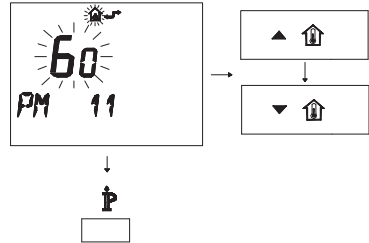

Fig. 7.31
- To modify the programmed SET, act on buttons **▲** and **⬆** or **▼** and **⬆** and wait for the programmed number to flash (Fig. 7.31). Each step increased or decreased corresponds to 1 second.